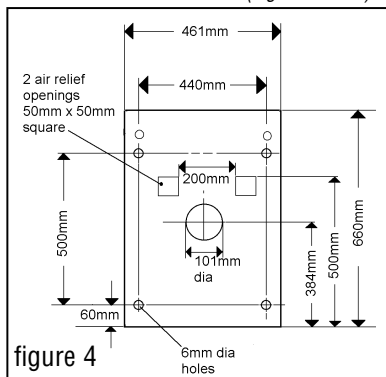

figure 4
3.4. FITTING THE CLOSURE PLATE (Figures 4 & 5)